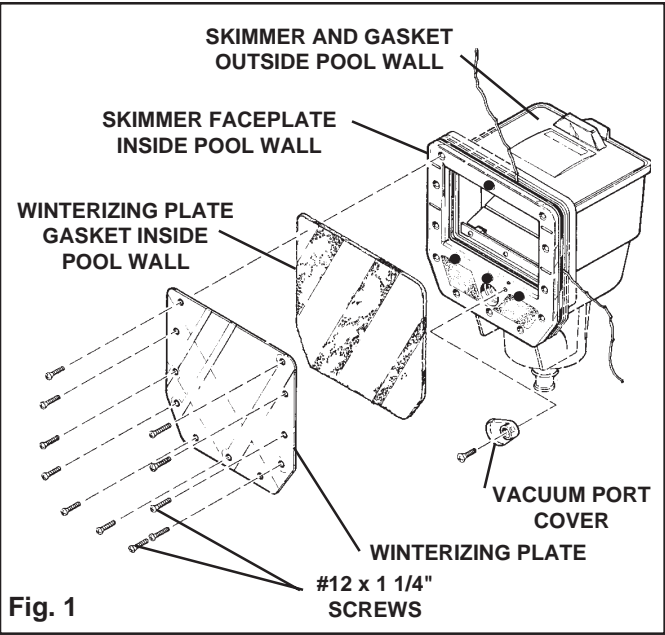

Fig. 1
4. Remove the outer 11 screws (see Fig. 1) from the skimmer faceplate. Note: Do not remove the three screws over the vacuum port cover, or the screw in the top center of the skimmer faceplate (shown bold in illustration in Fig. 1). Place the 11 screws in the skimmer basket also for safe keeping.